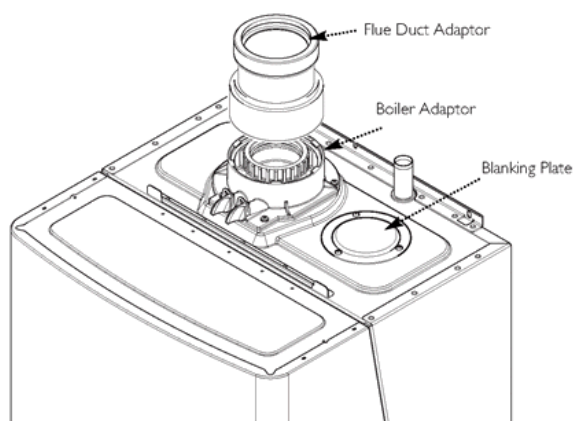

Fig. 17
8.4 Flue Duct Adaptor (Fig. 17)